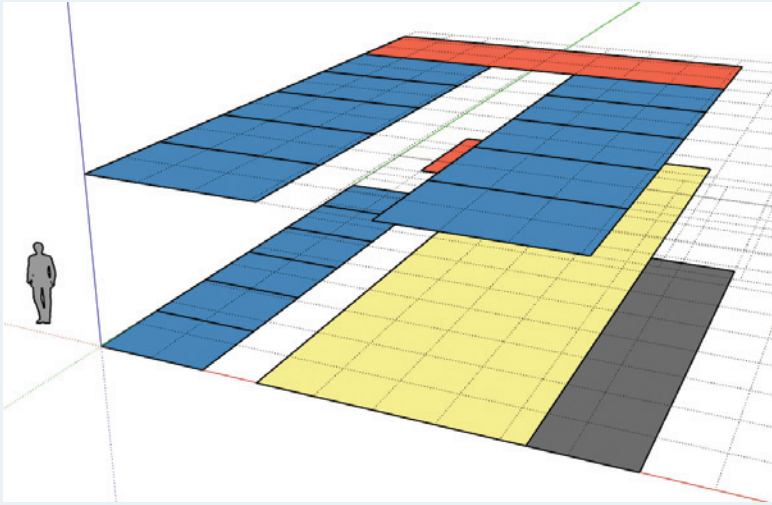

Figure 3.25: Space planning using our component
10. After you do this, add several of your newly created Space components from the Component window into the model, add use and size data in the Component Options window, and place them wherever you like in your model. You can very quickly and efficiently lay out a building program based on this. (See Figure 3.25.)